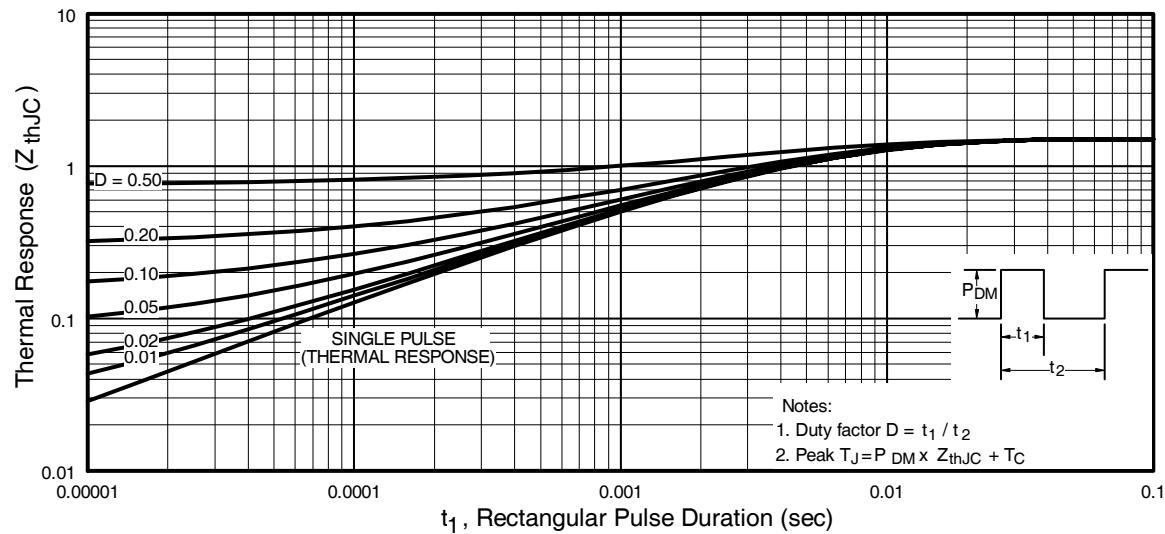

Fig 11. Maximum Effective Transient Thermal Impedance, Junction-to-Case
- ① Repetitive rating; pulse width limited by max. junction temperature. (See fig. 11)
- ③ $I_{\text{SD}} \leq 25\text{A}$, $di/dt \leq 230\text{A}/\mu\text{s}$, $V_{\text{DD}} \leq V_{(\text{BR})\text{DSS}}$, $T_J \leq 175^\circ\text{C}$
- ② Starting $T_J = 25^\circ\text{C}$, $L = 0.48\text{mH}$